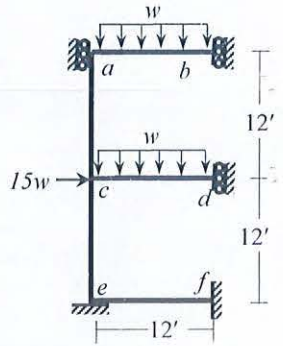

Fig.10
10. Use Stiffness Method (neglect axial deformations) considering geometric nonlinearity to calculate w required for buckling of the frame *abcdef* loaded as shown in **Fig.10**